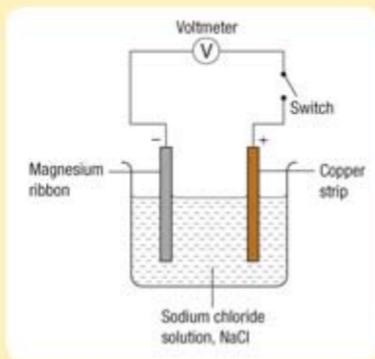

Figure 6.17 Simple chemical cell
4. Connect the magnesium ribbon, copper strip and voltmeter with connecting wires (Figure 6.17).